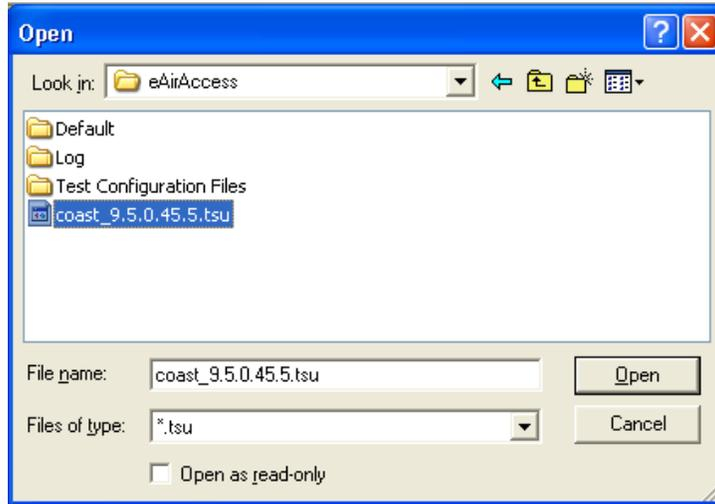

Figure 2-17: Opening the .tsu File
- Select the **.tsu** file and click the **Open** button, as shown in Figure 2-17.
**NOTE:** The version number reflected in the filename shown in Figure 2-17 may not reflect the current software version number.